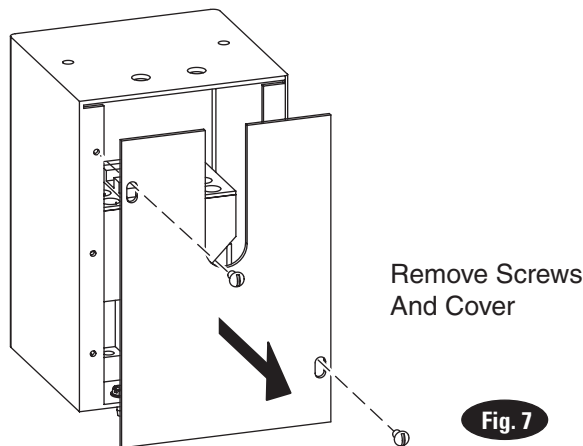
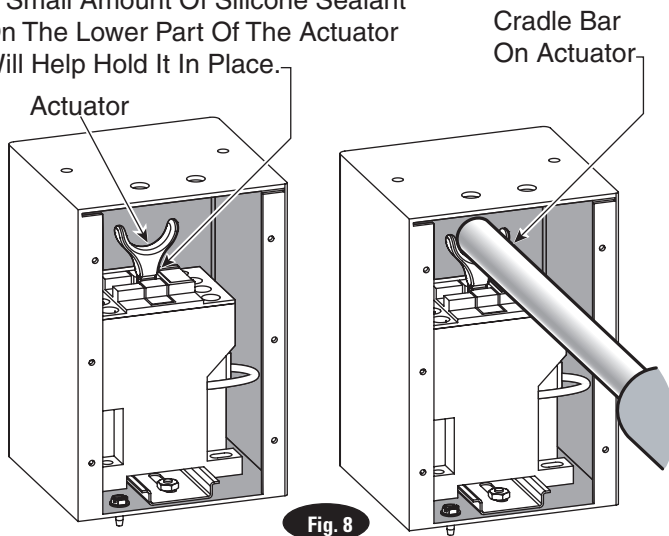

Fig. 7
Fig. 8
For three phase lifts: Remove Limit Switch cover, Fig. 7. Insert Actuator end of Switch Bar into slot located inside Limit Switch, Fig. 8. A small amount of silicone sealant on the lower part of the actuator will help hold it in place. Insert 1/4"-20NC x 2-3/4" HHCS through pivot hole in end of Switch Bar. NOTE which hole to use, Fig. 6a. Then secure HHCS and Switch Bar to overhead as shown, using (2) 3/4" spacers and 1/4"-20NC Locknut. Tighten Hex bolt leaving 1/16" gap between the spacer and the overhead assembly, Fig. 6a. Replace limit switch cover.